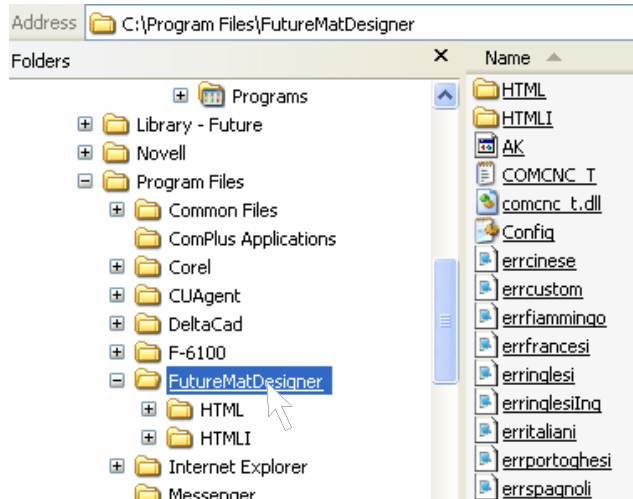

Figure 2.3
- Click on the Future Mat Designer program directory to highlight it, displayed under the Program Files directory (Figure 2.3).